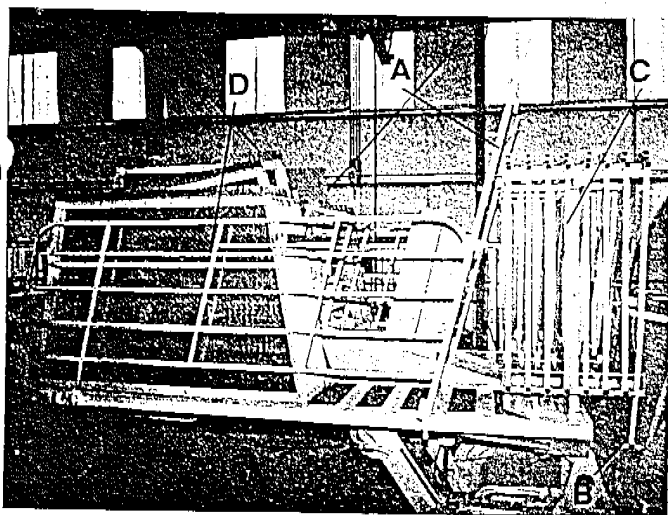

Fig. 12
- (1) The following assembly parts are stored on the gooseneck:
- walkway floor sections (d) (Fig. 12)
Note how the walkway support frame sections (c) are loaded on the gooseneck. (Refer to Fig. 12) The group of walkway support frame sections that is resting on top of the stack was loaded from one side of the gooseneck only. The sections can be unloaded from that same side only. Example: If the top group of support frame sections can be unloaded from the right side, it is a part of the assembly for the right side of the walkway platform. Therefore, set up the right side of the walkway platform first, using only the assembly parts stored on the right side of the ride. NOTE: Do not unload the walkway support frame sections before you are instructed to do so.
- (1) Lift the walkway starting bar (a) out of the 2 storage sockets on the gooseneck ramp handrail. (Refer to Fig. 12)
- (1) Unload the large walkway support frame section (b). It is stored closest to the center of the ride. (Refer to Fig. 12)